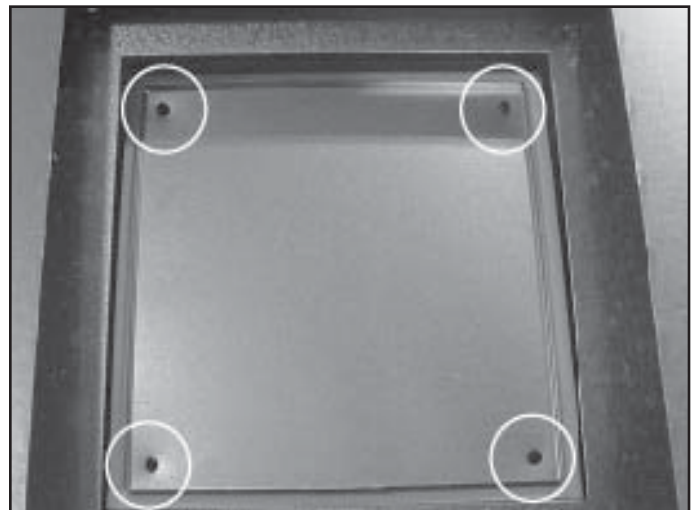

Figure 9.15 Outer Cover-Top
- Place outer cover plate on appliance top and replace four screws to hold outer cover plate in place. See Figure 9.15. Make sure insulation is replaced with cover plate!